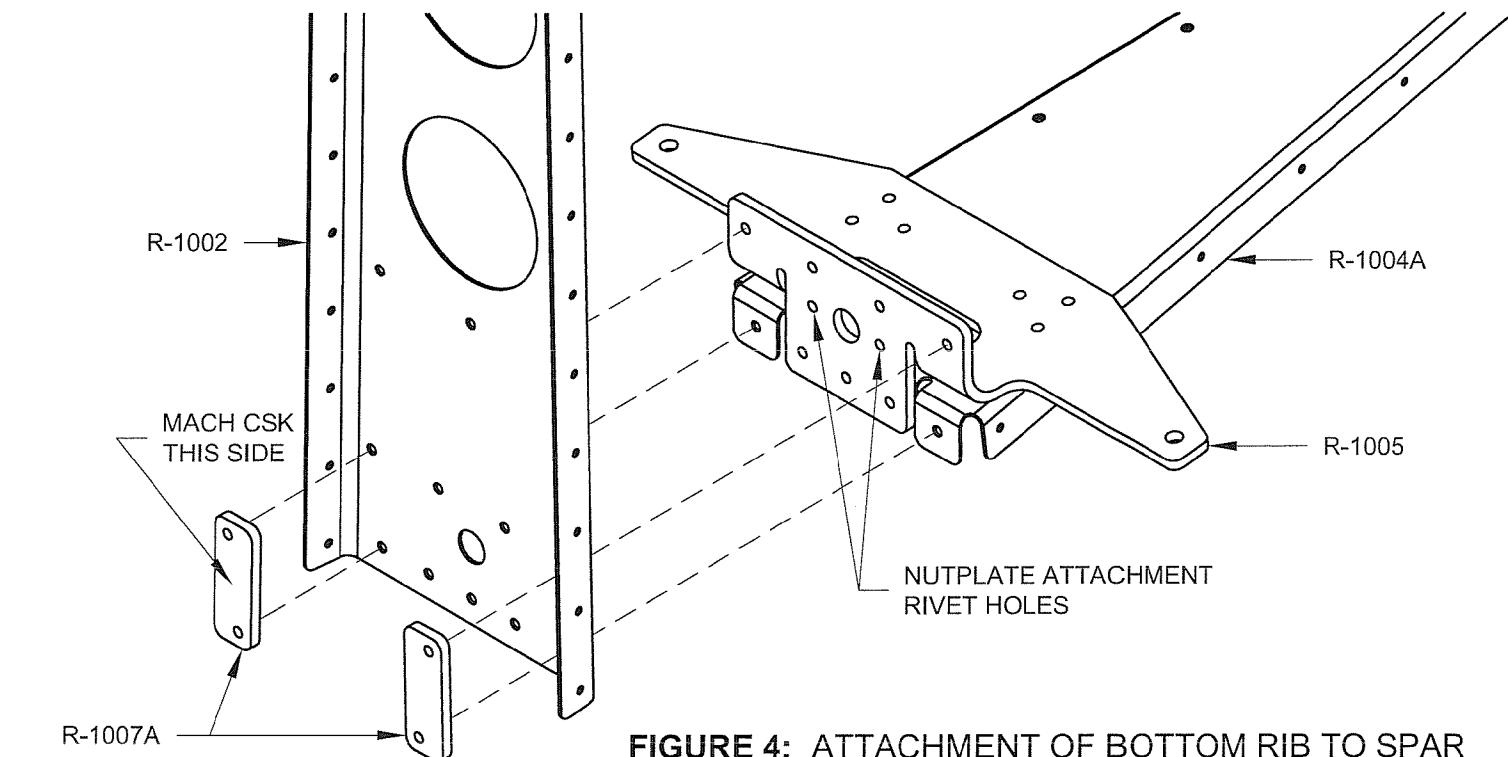

**FIGURE 3:** ATTACHMENT OF HORN TO BOTTOM RIB
Step 3: Cleco the R-1005 Rudder Horn to the R-1004A Bottom Rib Half using the three holes shown in Figure 3. The R-1004B Bottom Rib Half is unsupported forward of the last cleco which attaches it to the R-1004A. Use a "C" clamp to hold it in position with the R-1004A and the horn (make sure not to cover any of the holes on top of the horn). Lay a straight edge along the flange of the R-1004B to make sure it remained straight.